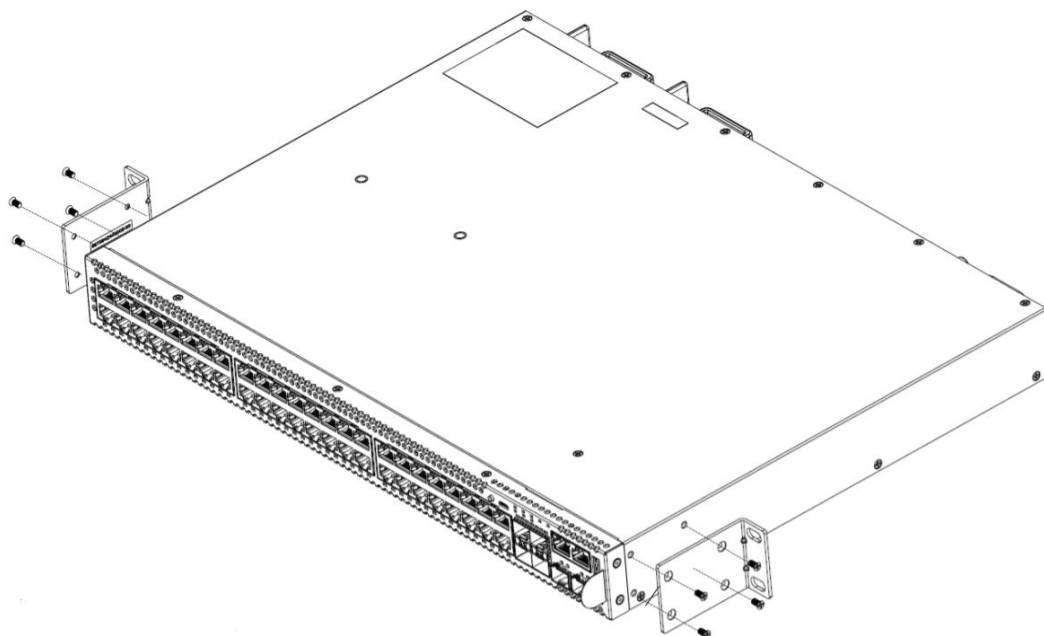

Figure 45: Mid-Mount: Attaching Short Mounting Brackets
- Figure 45 shows a mid-mount configuration using a short mounting bracket.